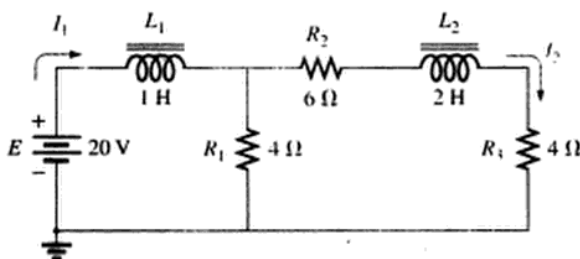

FIG. 11.108
43. Find the steady-state currents I_1 and I_2 for the network in Fig. 11.108.